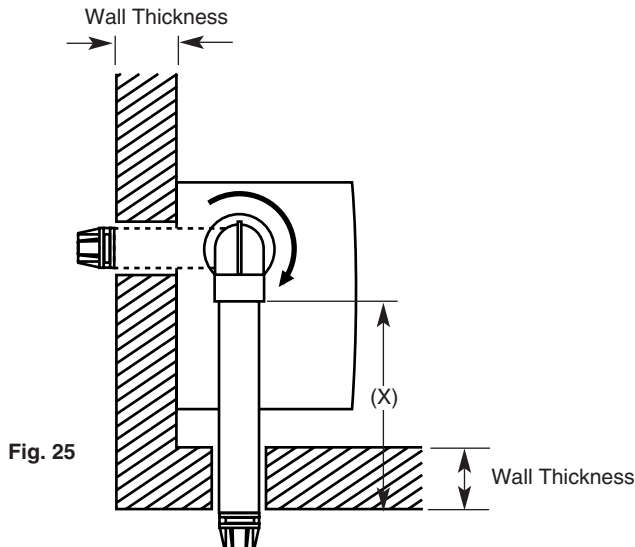

Fig. 25
4. Measure the distance from the outside wall face to the elbow (Figs. 25 & 26). This dimension will be known as 'X'.